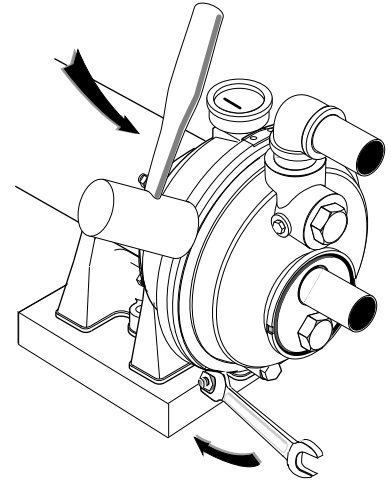

Figure 12
3. **BE SURE** inside of clamp is clean. Place clamp on pump halves; snug up. Alternately tighten screw and tap clamp with mallet to seat O-Ring (See Figure 12).